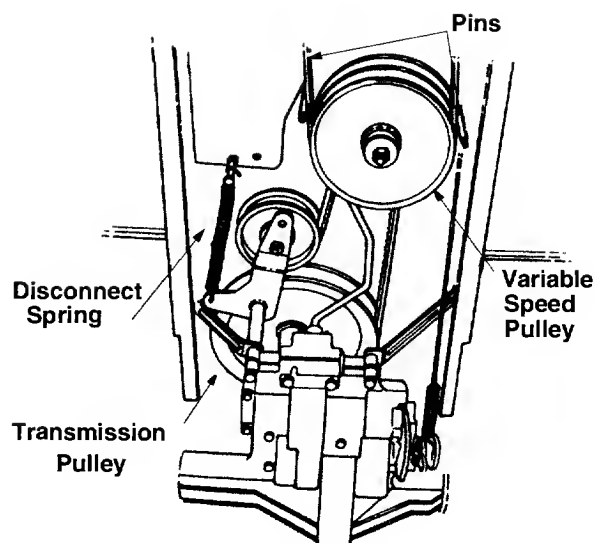

Figure 32
5. Remove the two pins which act as belt keepers by the variable speed pulley. See Figure 32.